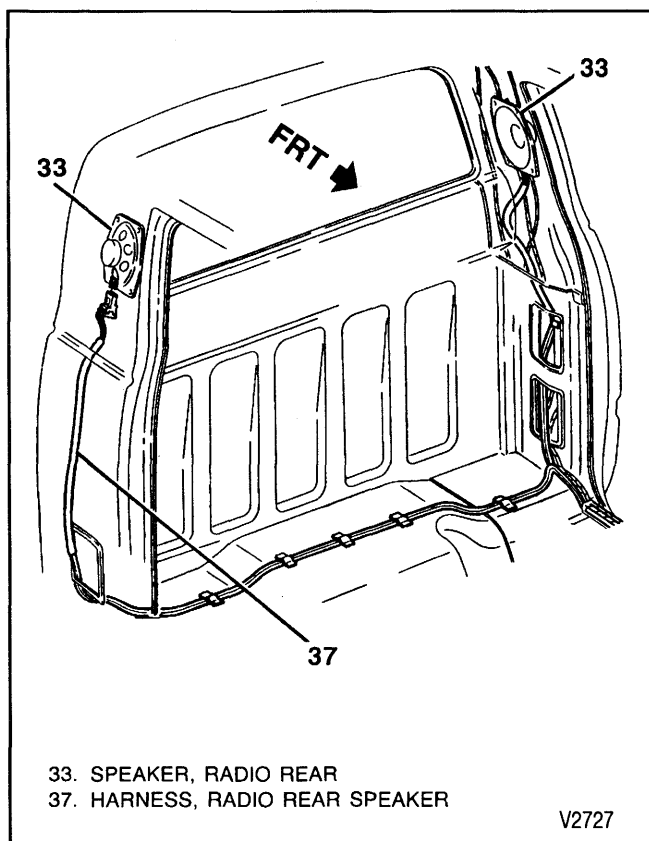

Figure 29—Rear Speaker Harness Routing (Pickup/Chassis-Cab Models)
1. Speaker grille (36) or rear trim panel (35).
2. Screws (34).
3. Speaker (33).
4. Electrical connectors, as necessary (figures 29, 30, and 32).
1. Electrical connectors, as necessary (figures 29, 30, and 32).
2. Speaker (33).